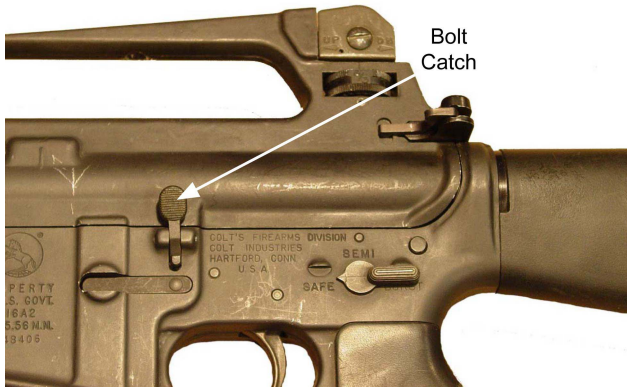

Figure 2-14. Bolt Catch
- (5) Depress upper portion of bolt catch. Bolt should go forward. Refer to Figure 2-14.